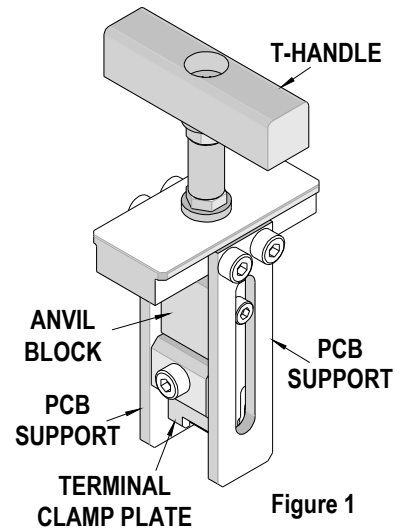

Figure 1
The principal parts of the terminal removal tool are shown in Figure 1.
2. Turn the T-handle counterclockwise (CCW) until the clamp plates and anvil block are fully down. See Figure 1.